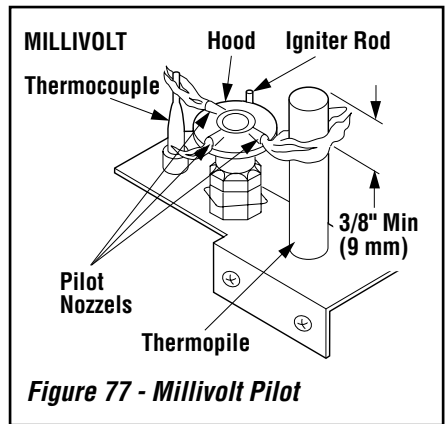

Figure 77 - Millivolt Pilot
The flame should project 1" (25 mm) beyond the hood at all three ports (see **Figure 77**). Replace logs if removed for pilot inspection.
B. Defective or misaligned electrode at pilot (spark at electrode).	Using a match, light pilot. If pilot lights, turn off pilot and trigger the igniter button again. If pilot lights, an improper gas mixture caused the bad lighting and a longer purge period is recommended. If pilot will not light - check gap at electrode and pilot - should be 1/8" to have a strong spark. If gap measures 1/8", replace pilot (see Figure 77 on Page 49).